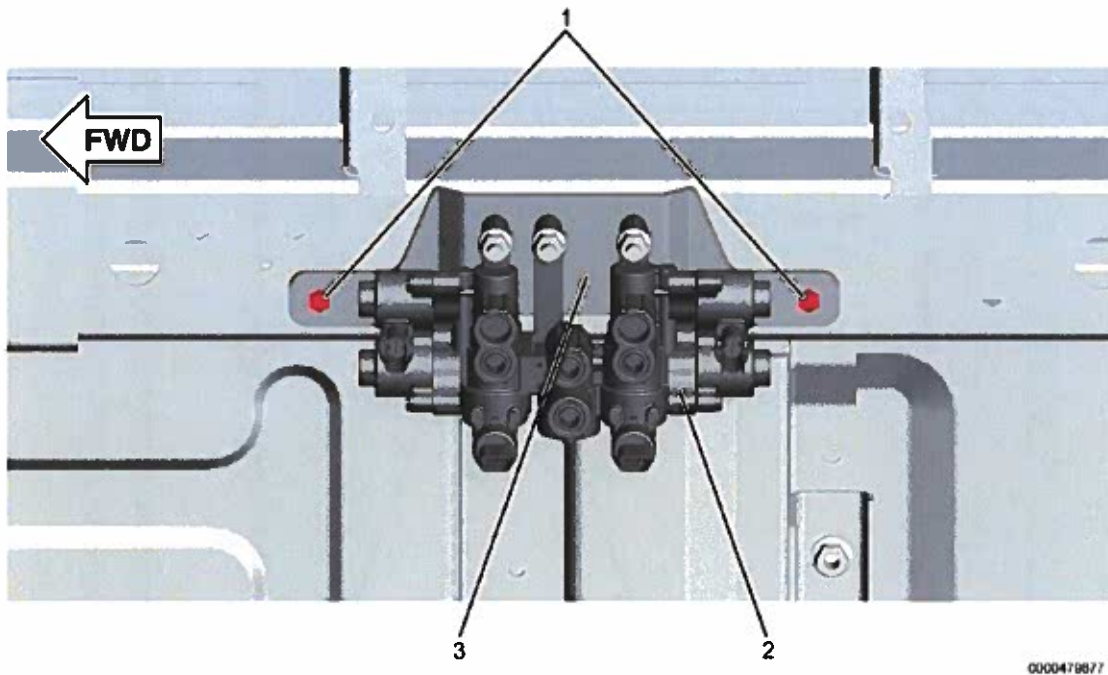

Figure 3. HX Park Valve Module and Mounting Bracket
- c) HX and HV Series: Remove mounting bracket fasteners (Figures 3 & 4, Item 1) from air line support bracket(s) and cab floor crossmembers. Save for reuse.
e) HX and HV Series: Position PVM mounting bracket to cab floor and loosely install previously removed fasteners (Figures 3 & 4, Item 3). Using torque wrench and backup wrench, tighten mounting bracket front and rear fasteners to 19–21 lb-ft (26–28 N·m).